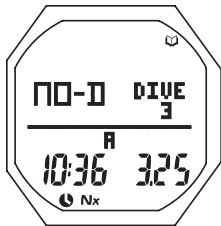

Fig. 33 - LOG PREVIEW
**Log Preview**, information includes (Fig. 33):